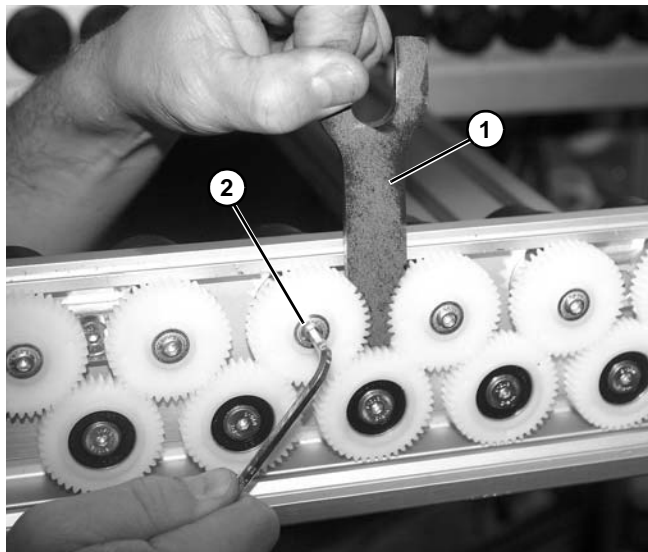

Figure 58
2. Install sprocket removal tool, part number 400289 (**Figure 58, item 1**) between gears.
3. Remove screw (**Figure 58, item 2**) holding gear onto roller shaft.